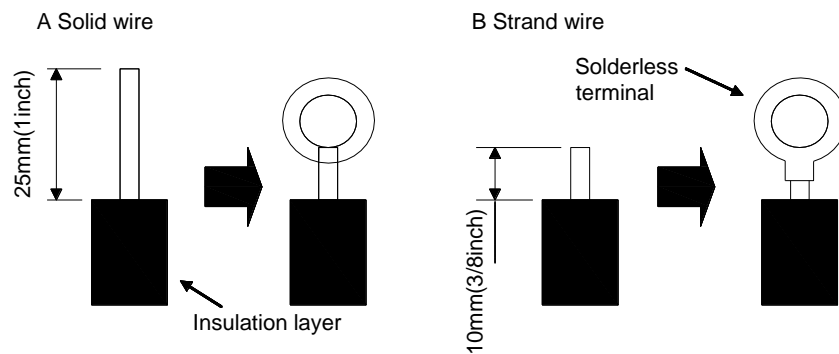

Figure 3-4-1
(1) For solid core wiring (Figure 3-4-1)
(2) For strand wiring (Figure 3-4-1).